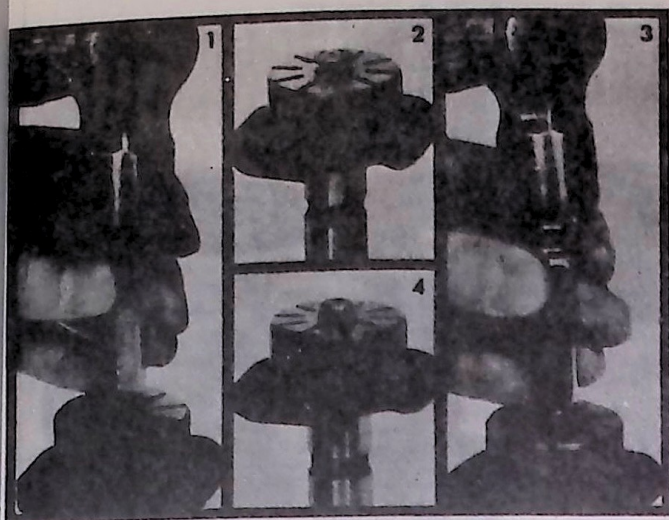

Fig. 23—Installing Shaft Snap Ring
5. Install a new shaft retaining ring by placing the ring on the end of the shaft and using first a drift and then a 3/8" socket to tap the NEW ring into place (fig. 23).